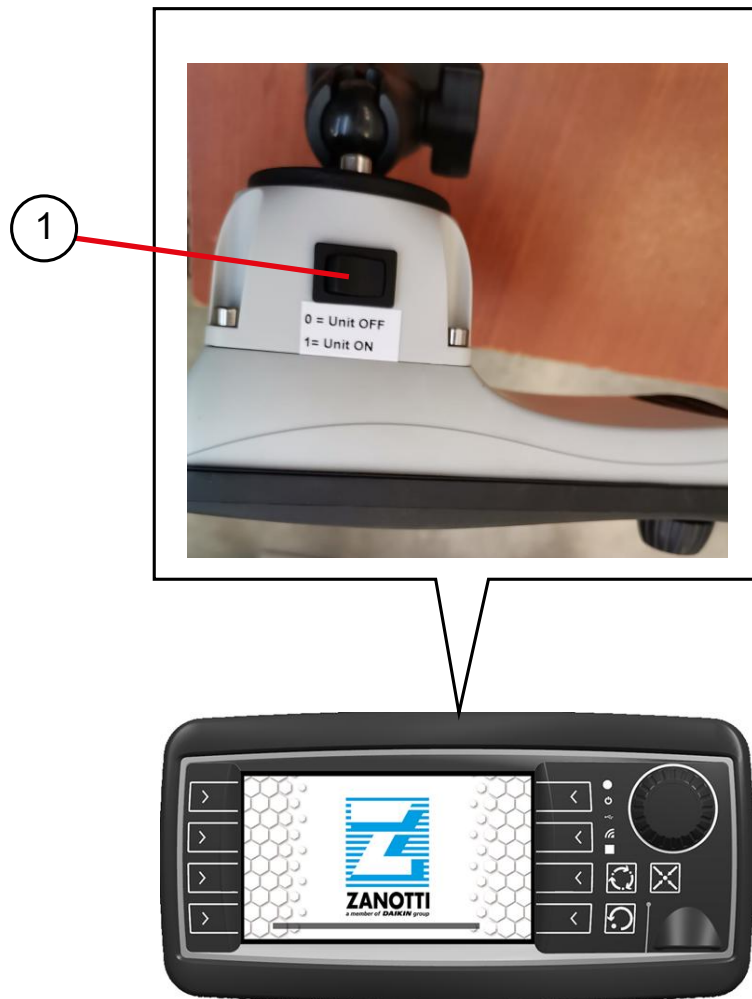

Figure 8 - On/off Button B
To turn the unit on, move the switch (1, Figure 8) located on the in-cab controller to position “1” (ON).
To turn the unit on, move the switch (1, Figure 8) located on the in-cab controller to position ON.